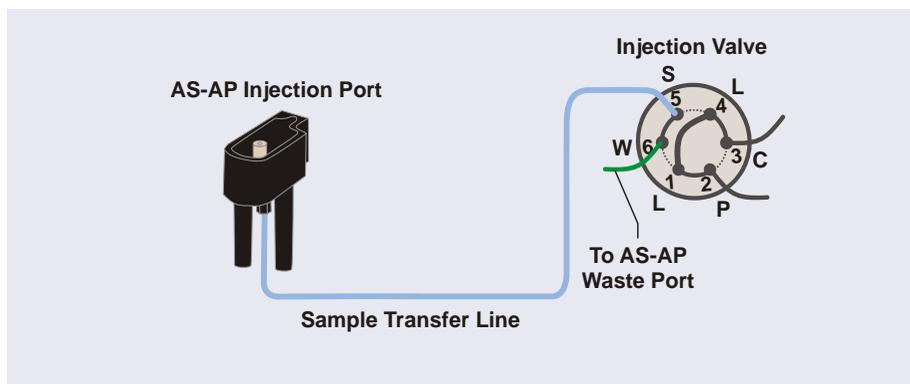

Figure B-19. Sample Transfer Line Connections for Push Mode Injections to a Single Injection Valve
Figure B-19 shows the completed injection valve connections for push mode injections to a single injection valve.
2. Install a 10-32 fitting bolt (P/N 074449) and double-cone ferrule (P/N 074373) on the end of the sample transfer line and connect the line to port **S** (5) on the injection valve (see Figure B-19).